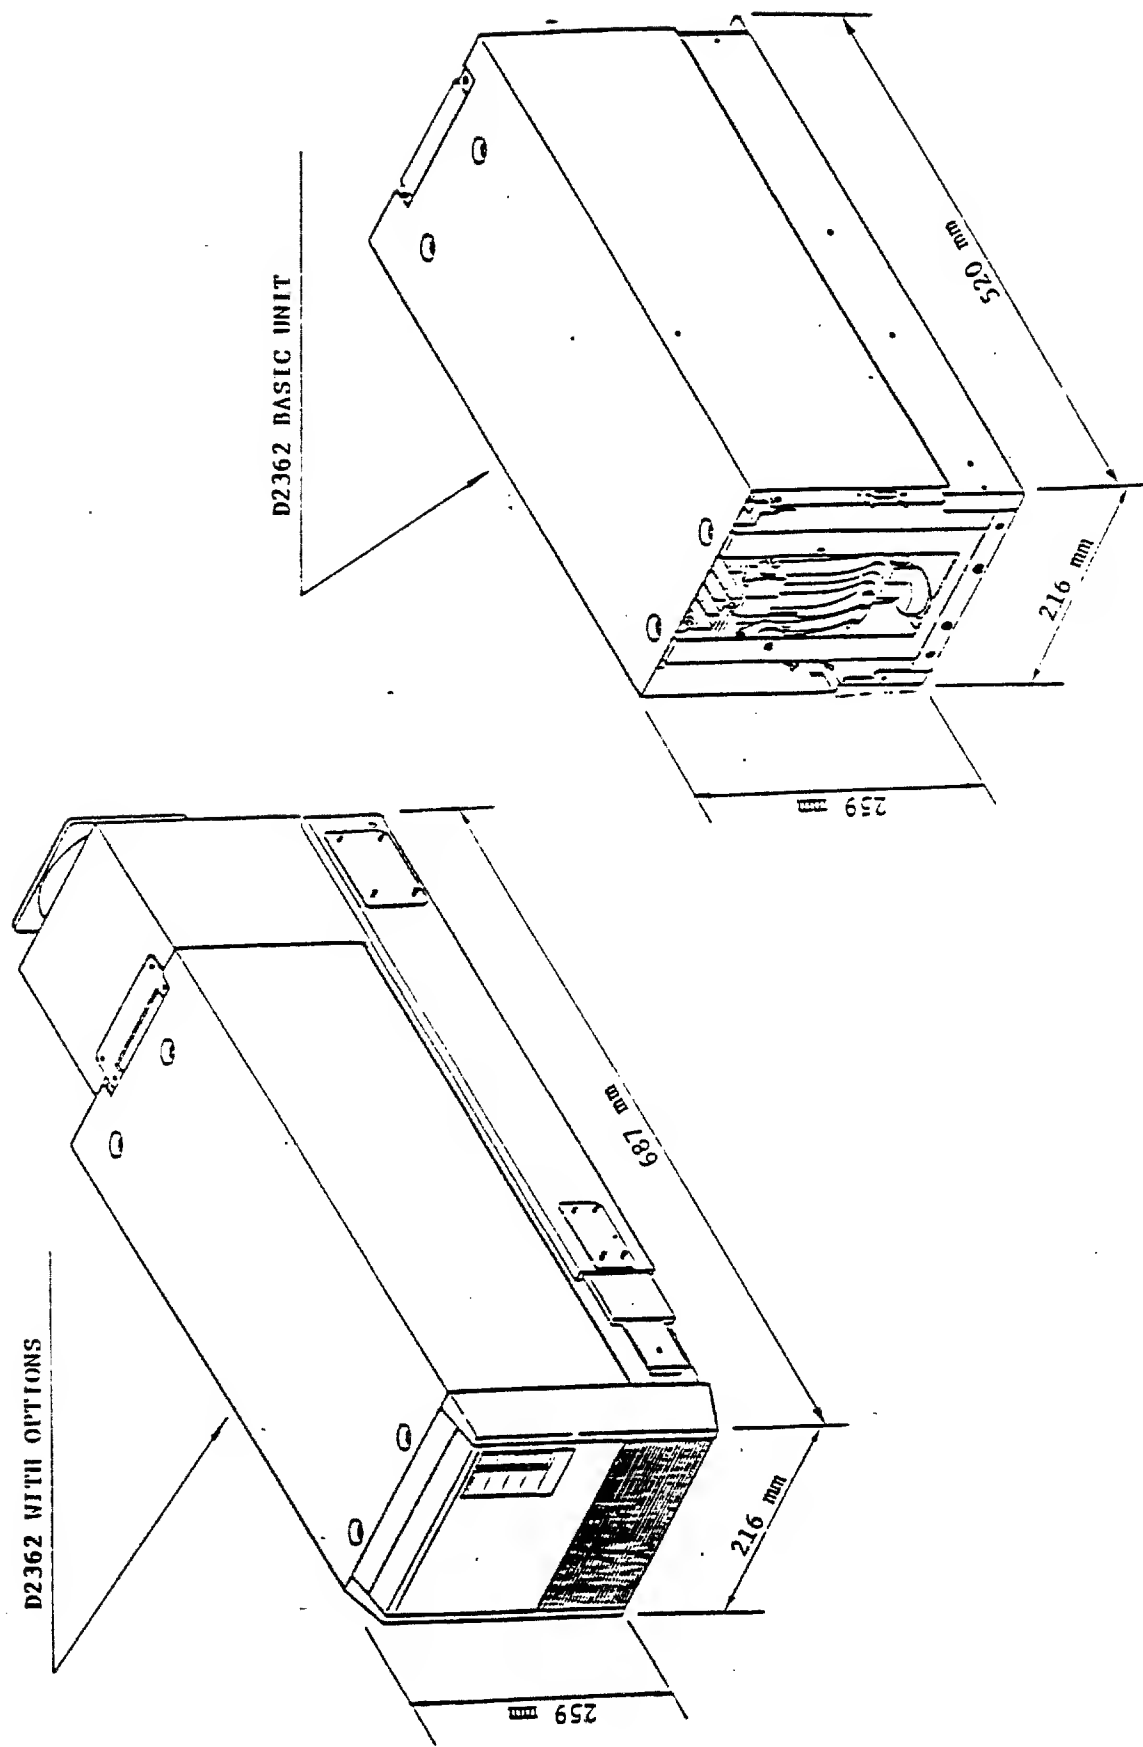

Figure 1-1 D2362 Appearance
The NEC D2362 Disk Drive is a compact disk drive that stores 800 megabytes (MB) of unformatted data on 9-inch disk platters. The disk drive employs thin film plated platters and Winchester-type technology, which provides the most modern method of recording large amounts of data for high speed, reliable computer accessibility. (See Figure 1-1)